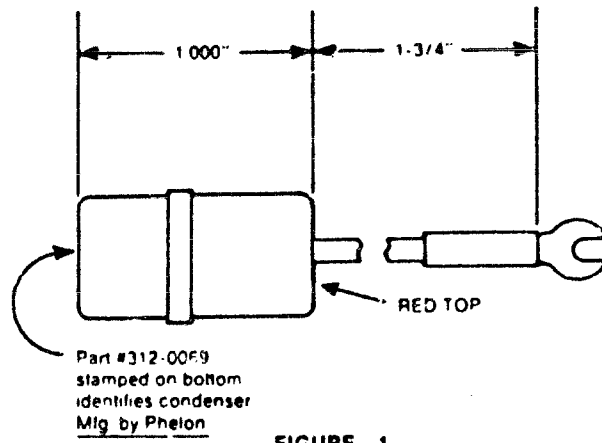

FIGURE 1.
- 1) Remove all 312-0069 Phelon (Red top/fig. 1) condensers from your stock.
- 2) Remove 312-0069 Phelon Co. manufactured condensers (fig. 1) from the following kits: